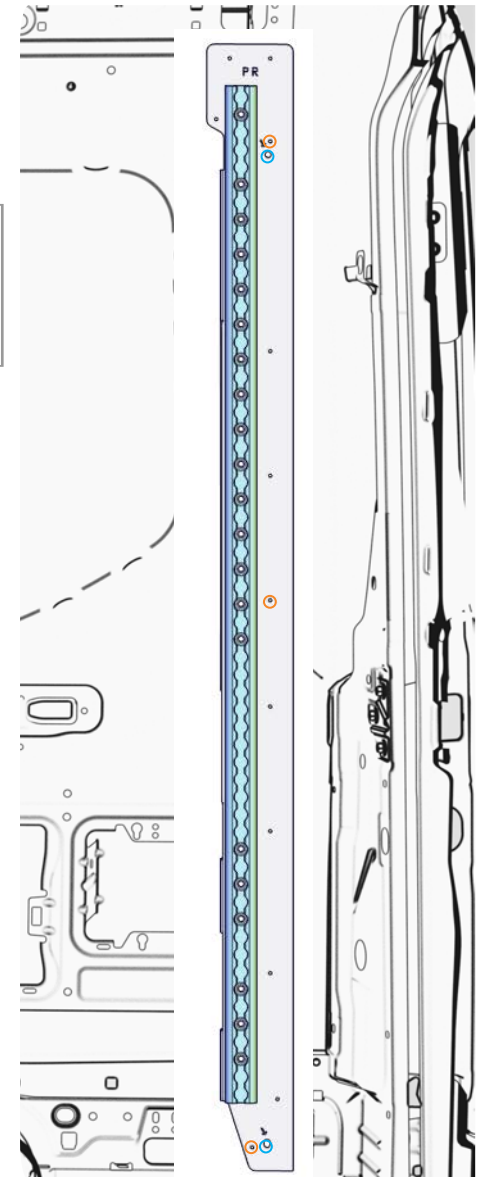

FIG 6
3.3 Align the Passenger Side Rear Bracket to the Alignment Point as shown in FIG 6.